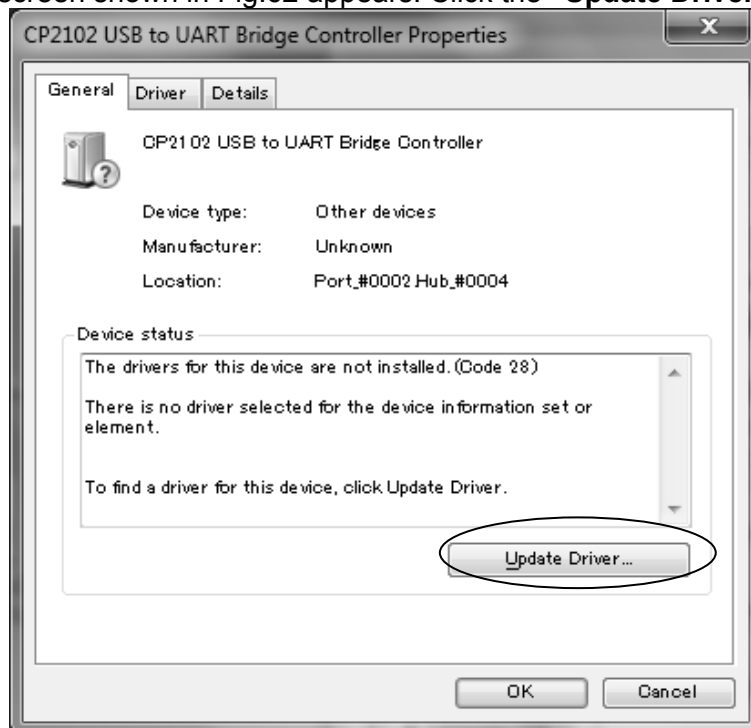

Fig. 62 Controller Properties
(12) The properties screen shown in Fig.62 appears. Click the **"Update Driver"**.